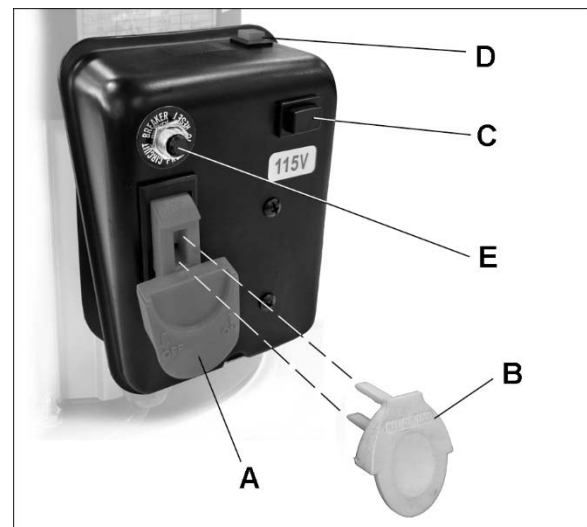

Figure 16
**Main power switch** (A, Figure 16) – Pull up paddle switch to engage electrical power to dust collector, push down to cut off power. Note: The switch must be in ON position for remote controller to operate.
The safety key (B, Figure 16) can be removed to prevent unauthorized use of dust collector. Key must be reinserted to start machine – press until it snaps back in.
**Start/stop button** (C, Figure 16) – Turns dust collector on and off, if remote controller is not used.
To operate remote controller, safety key must be inserted and main power switch turned on (A/B, Figure 16). The LED light on controller will illuminate when either ON or OFF button is pressed.
1. Press reset button (D, Figure 16) for 3 seconds until receiver “beeps” 3 times. This clears the remote controller.
2. Press reset button (D) for 1 second until receiver “beeps” once.
4. Press reset button (D) for 3 seconds until receiver “beeps” 3 times.
If the overload is tripped, allow the machine to cool down for several minutes. Then press reset button (E, Figure 16) and restart the dust collector.